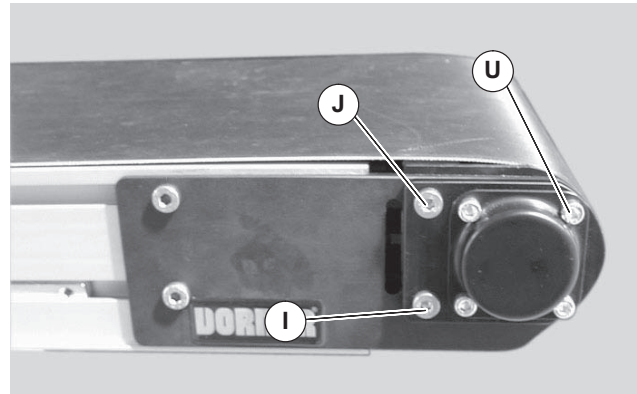

Figure 24
7. Loosen screws (Figure 24, item I and U).
8. Remove screw (Figure 24, item J). Remove existing spacer plates (Figure 25, item K).